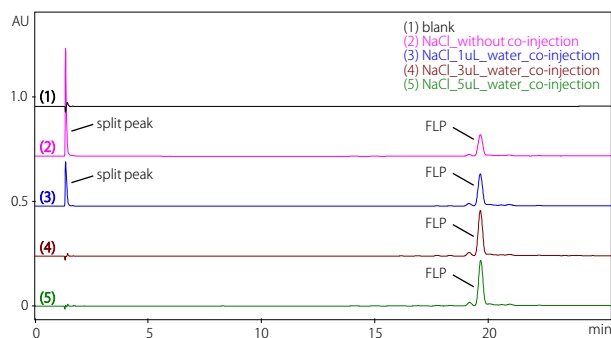
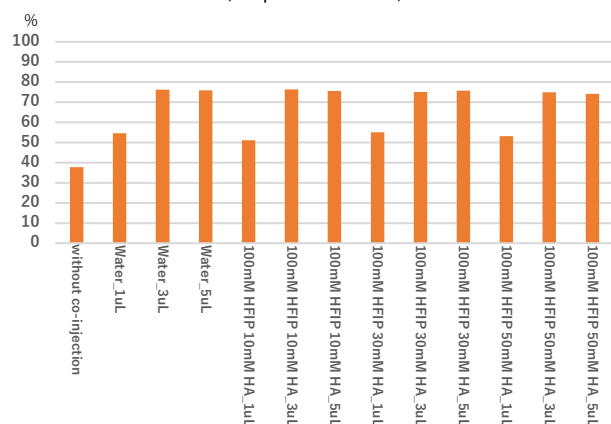
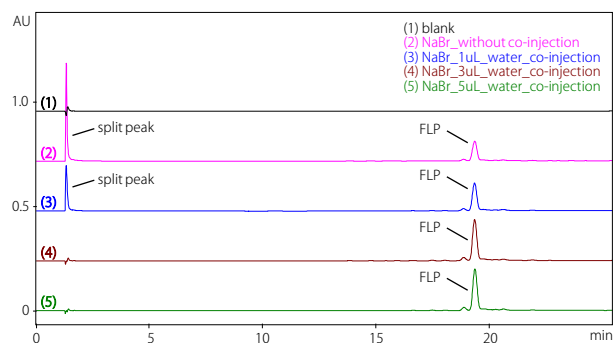
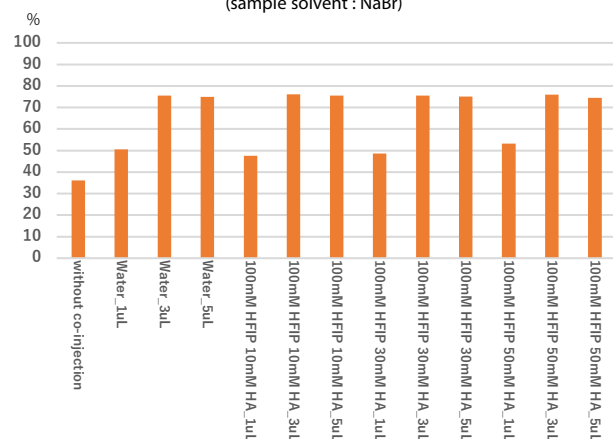

Fig. 3 Comparison of Chromatograms with/without Co-injection (sample solvent : NaCl)
Fig. 4 Normalized FLP Peak Areas (sample solvent : NaCl)
Fig. 5 Comparison of Chromatograms with/without Co-injection (sample solvent : NaBr)
Fig. 6 Normalized FLP Peak Areas (sample solvent : NaBr)
Chromatograms obtained without the co-injection function are shown in Fig. 3(2) (sample solvent : NaCl) and Fig. 5(2) (sample solvent : NaBr), respectively. The ion-pair formation ability was suppressed due to the high concentration of salts in the sample solvents. Consequently, the oligonucleotide was not properly retained, and part of the peak was eluted as a split peak. On the other hand, simultaneous co-injection of pure water resulted in increased peak areas for the full-length product (FLP) (Fig. 3 (3)–(5) and Fig. 5 (3)–(5)), confirming that it effectively provided appropriate peak retention. When the co-injection volume was 3 μ L or more (Fig. 3(4), (5) and Fig. 5(4), (5)), split peaks were no longer observed. The relationship between the co-solvents, co-injection volumes, and the normalized peak areas (%) of FLP is shown in Fig. 4 (sample solvent : NaCl) and Fig. 6 (sample solvent : NaBr), respectively. Regardless of the co-injected solvent type, the normalized peak areas of FLP remained nearly constant when the co-injection volume was 3 μ L or more. This suggests that co-injection is effective in suppressing the peak splitting phenomenon caused by the sample solvent effect.